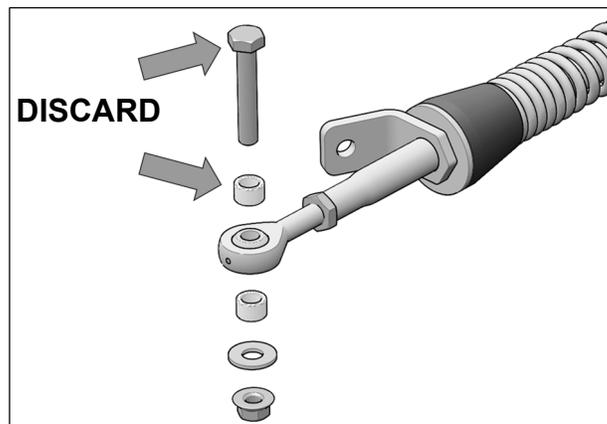

Fig. 3
- Remove bolt, washer and spacer bushings from the rear stabilizing rod end. Discard one of spacer bushings and the 60mm bolt. See Fig. 3